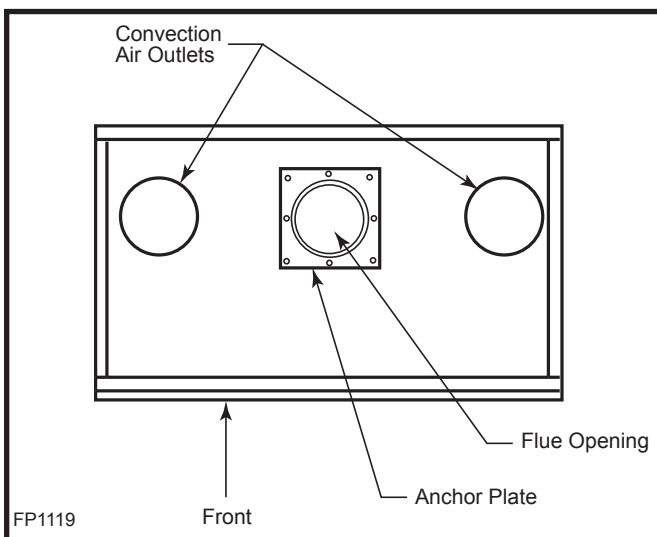

Fig. 41 The anchor plate mounts on top of the cabinet and secures the chimney to the chimney connector.
3. Mark and drill the anchor plate. Fit the chimney system anchor plate appropriate to your chosen pre-fabricated chimney over the flue outlet at the top of the cabinet and mark the attaching hole centers; remove the anchor plate and drill the fastener holes. (Fig. 41) Do not install the plate at this time.